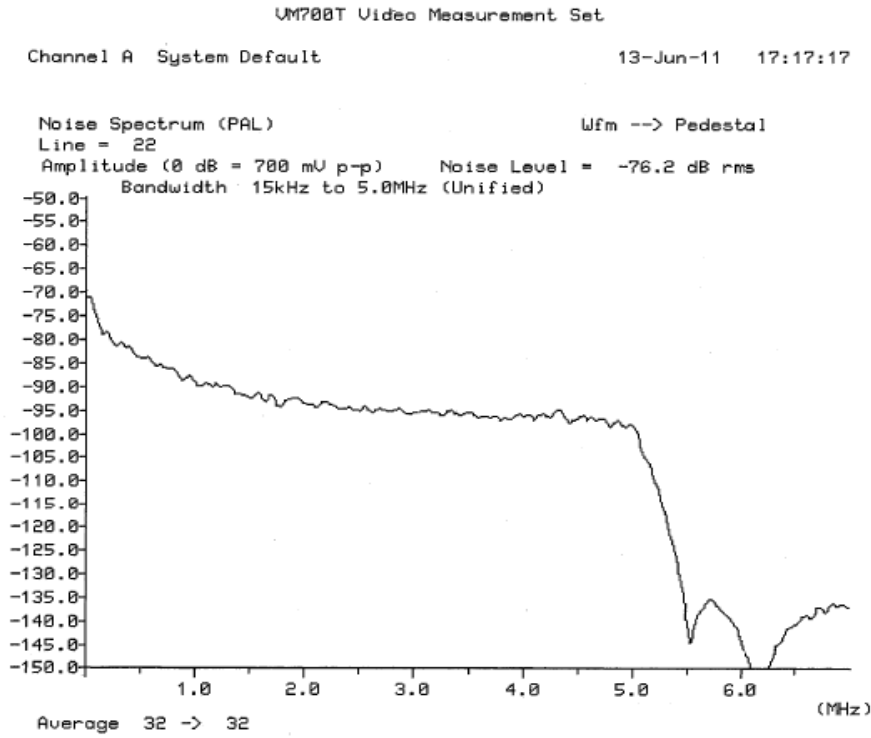

Figure 2-1. Noise spectrum (Input=0% Flat Field, BW=15kHz to 5MHz, Filter=Uni-Weighted)
- Figure 2-1. Noise spectrum (Input=0% Flat Field, BW=15kHz to 5MHz, Filter=Uni-Weighted)